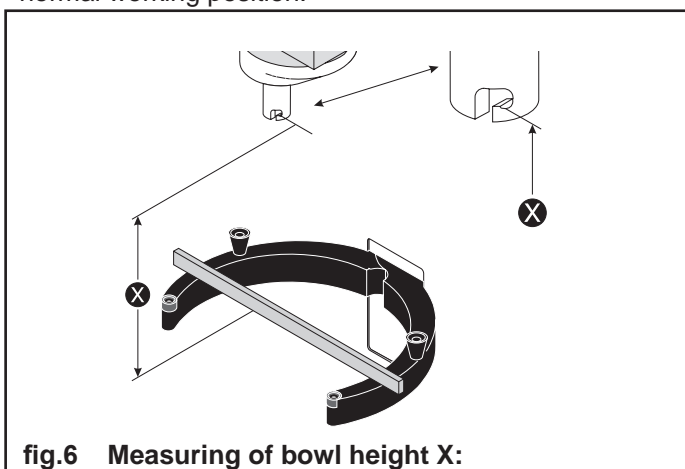

fig.6 Measuring of bowl height X:
The distance (X) is measured from the bottom side of the bayonet hole to the surface on the bowl arms on which the bowl rests (fig. 6). The bowl arms must be lifted to normal working position.